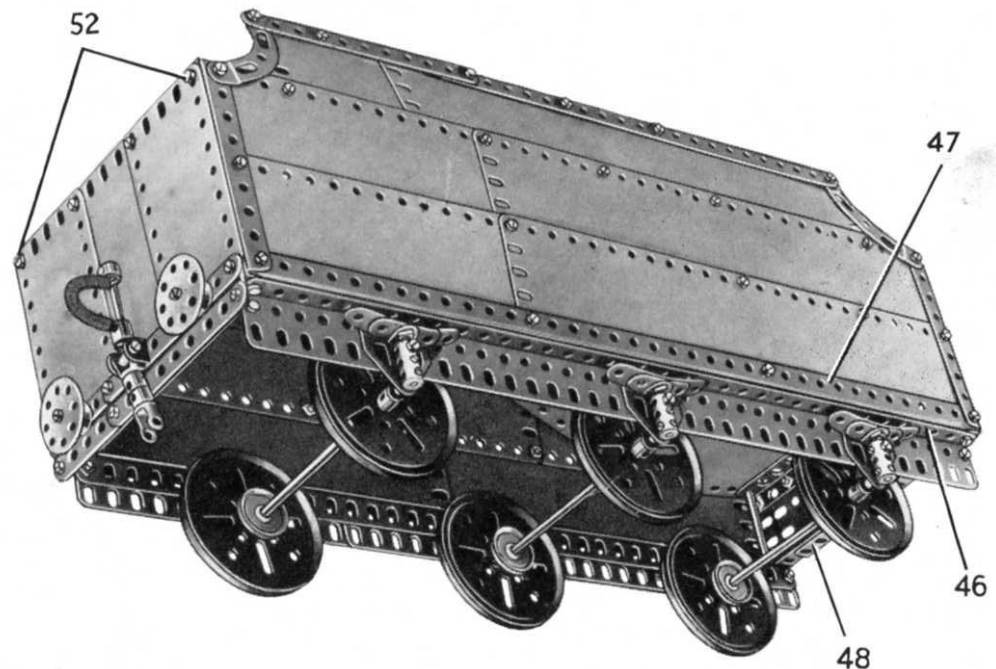

FIG. 9 Another view of the Tender
Each side of the underframe is made by bolting a  $12\frac{1}{2}$ " Flat Girder and a  $9\frac{1}{2}$ " Flat Girder to an  $18\frac{1}{2}$ " Angle Girder (46) (Fig. 9). A further  $18\frac{1}{2}$ " Angle Girder (47) is fixed to the Girder (46), and the sides are connected at each end by built-up girders (48), each made from a  $5\frac{1}{2}$ " and a  $2\frac{1}{2}$ " Angle Girder overlapped three holes. The wheels are free to turn between Spring Clips and 1" Pulleys on  $6\frac{1}{2}$ " Rods, which are mounted in Flat Trunnions and in Couplings fixed to the Flat Trunnions by  $\frac{3}{4}$ " Bolts. The leafspring above each Coupling is formed by a  $2\frac{1}{2}$ " Strip and a  $1\frac{1}{2}$ " Strip supported by an Angle Bracket.
The front pair of  $4\frac{1}{2}$ " Angle Girders is connected by a built-up girder (50), made from a  $5\frac{1}{2}$ " and a  $2\frac{1}{2}$ " Angle Girder. A  $5\frac{1}{2} \times 1\frac{1}{2}$ " Flexible Plate is fixed between this and the girder (48). A further built-up girder (51), made in the same way as the girder (50), is fixed in position, and to these girders are bolted three  $12\frac{1}{2} \times 2\frac{1}{2}$ " Strip Plates. The Strip Plates are curved as shown and are attached to the Girders (49). Each Strip Plate is extended by two  $4\frac{1}{2} \times 2\frac{1}{2}$ " Flexible Plates. These are supported at their rear ends by a built-up girder held by bolts (52) (Fig. 9), and made from a  $5\frac{1}{2}$ " and a  $1\frac{1}{2}$ " Angle Girder. A Boiler End is attached to this girder by an Angle Bracket.
The back of the tender is filled in by three  $4\frac{1}{2} \times 2\frac{1}{2}$ " Flexible Plates, edged at their lower ends by two built-up strips each made from two  $4\frac{1}{2}$ " Strips. The buffers are Wheel Discs and  $\frac{1}{2}$ " fixed Pulleys on  $\frac{3}{4}$ " Bolts. The tender coupling and the brake pipe are arranged as shown in Fig. 9.